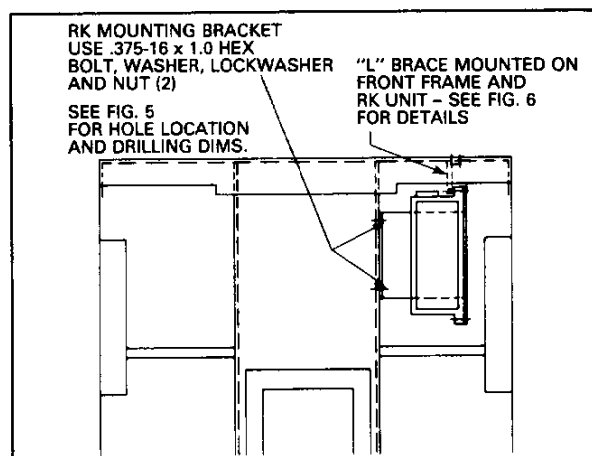

Fig. 7 Front View of Breaker
- Line up the RK unit with the four (4) holes on the bracket, the RK unit should be in a vertical position, secure the RK to the top inner and two lower holes using .190-32 x 1.0 fil. head screws, flat washer, lockwasher and nut. Fig. 7.
- Secure the complete assembly to the right side of the front frame (See Fig. 7) using .375-16 x 1.0 hex bolt, washer, lockwasher and nut.